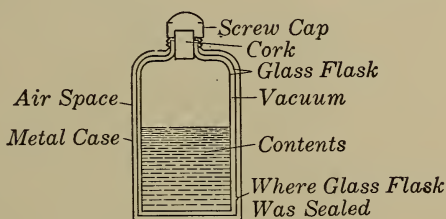

FIGURE 29. — CROSS SECTION OF A THERMOS BOTTLE.
**53. The Thermos Bottle.**—The thermos bottle consists of a double glass flask with the outside silver-coated (Figure 29). The space between the walls of the flask is a vacuum, the air having been pumped out. The flask is then placed inside of an outer cover, which is either silver or nickel